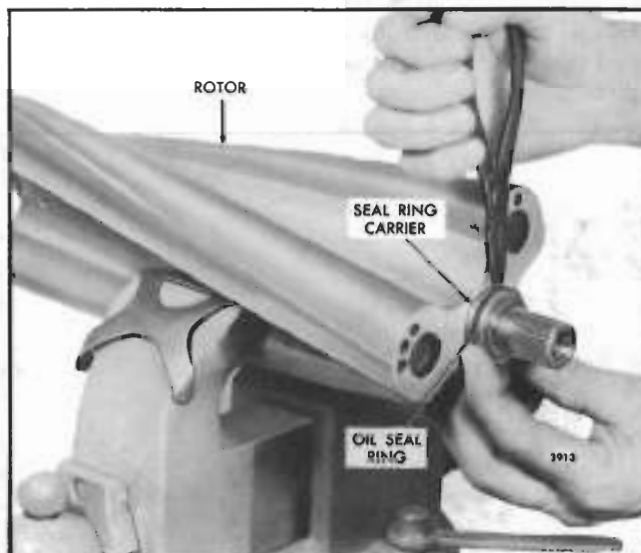

Fig. 7 - Removing Oil Seal Ring from Carrier (Turbocharged Engine Blowers)
- a. Clamp one lobe of the rotor in a bench vise equipped with soft jaws (Fig. 7). Tighten the vise just enough to hold the rotor stationary.
- b. Remove the oil seal ring from the seal ring carrier on each blower rotor shaft with a pair of snap ring pliers as shown in Fig. 7.
- e. Install an oil seal ring in the ring groove of each carrier with a pair of snap ring pliers in the same manner as shown in Fig. 7.